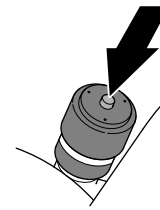

Figure 77
6. If a red band displays in the service indicator, press the reset button at the end of the indicator (Figure 77).